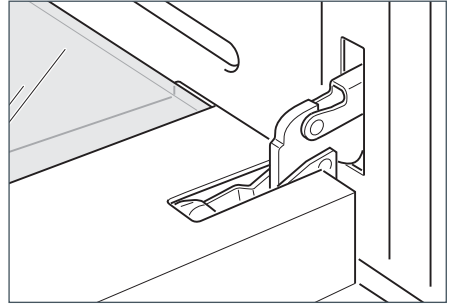

Fig.44a
- Fully open the oven door (Fig. 44a).
- 1 Make sure the door is locked open (see Figs. 44a - 44c).